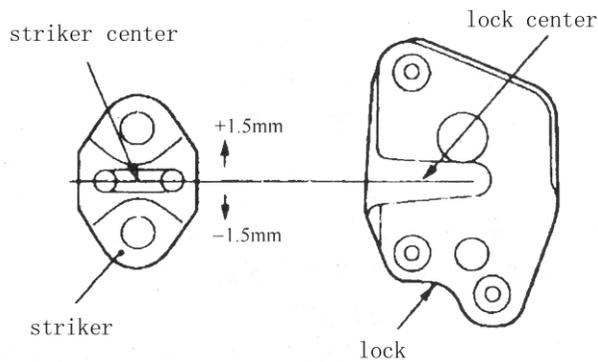
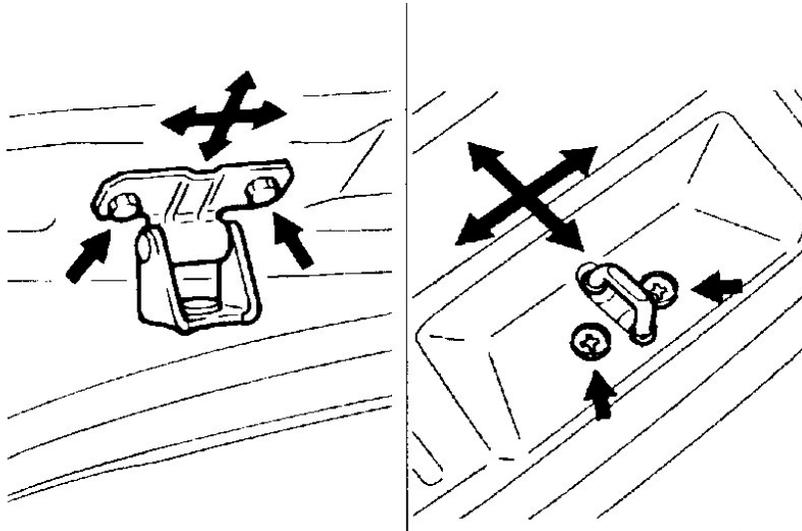

Fig. 18-44
Fig. 18-47
(1) To adjust the alignment of the door striker and door latch, by moving the shims up and down or outside and inside, see figure18-47. Be sure the dimension tolerance between the center of striker and the center of the latch is $\pm 1.5\text{mm}$, see figure18-44
(2) If the gap between the door and the body side is inconsistent, adjust the attach area of the hinge and the striker. See Fig.18-47.